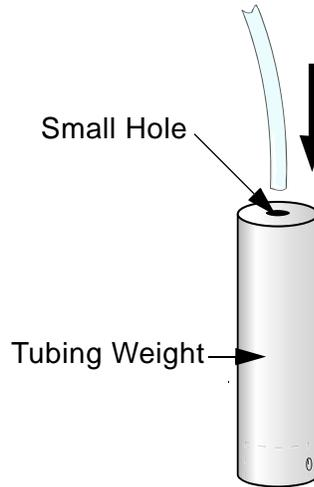

Figure 1. Tubing in Tubing Weight
- 5 Push the tubing end through the small hole in the top of one of the tubing weights until the tubing extends through the opposite end, as shown in Figure 1.